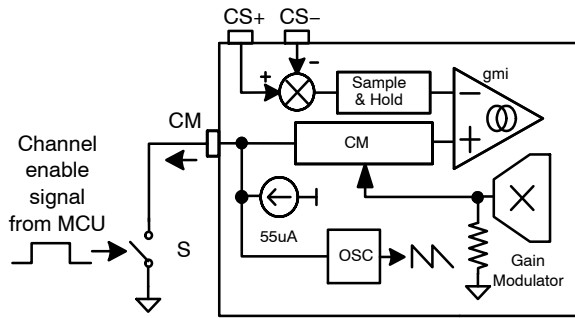
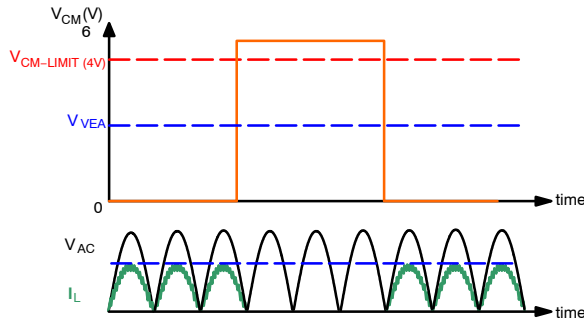

Figure 14. Channel Management by MCU
Figure 15. Channel Management by MCU
Channel Management (CM) function can also be accessed by an MCU through the connection shown in Figure 14. CM pins have internal pull-up current source. If  $V_{CM} > 4V$ , the channel is disabled. To enable the channel, make  $V_{CM} = 0V$ , as shown in Figure 15.